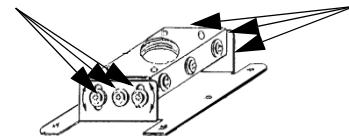

Figure 10. Adjust Pitch
1. Loosen (slightly) three #10-24X3/8" pitch adjustment screws located on each side of the adjustment plate (see Figure 10).